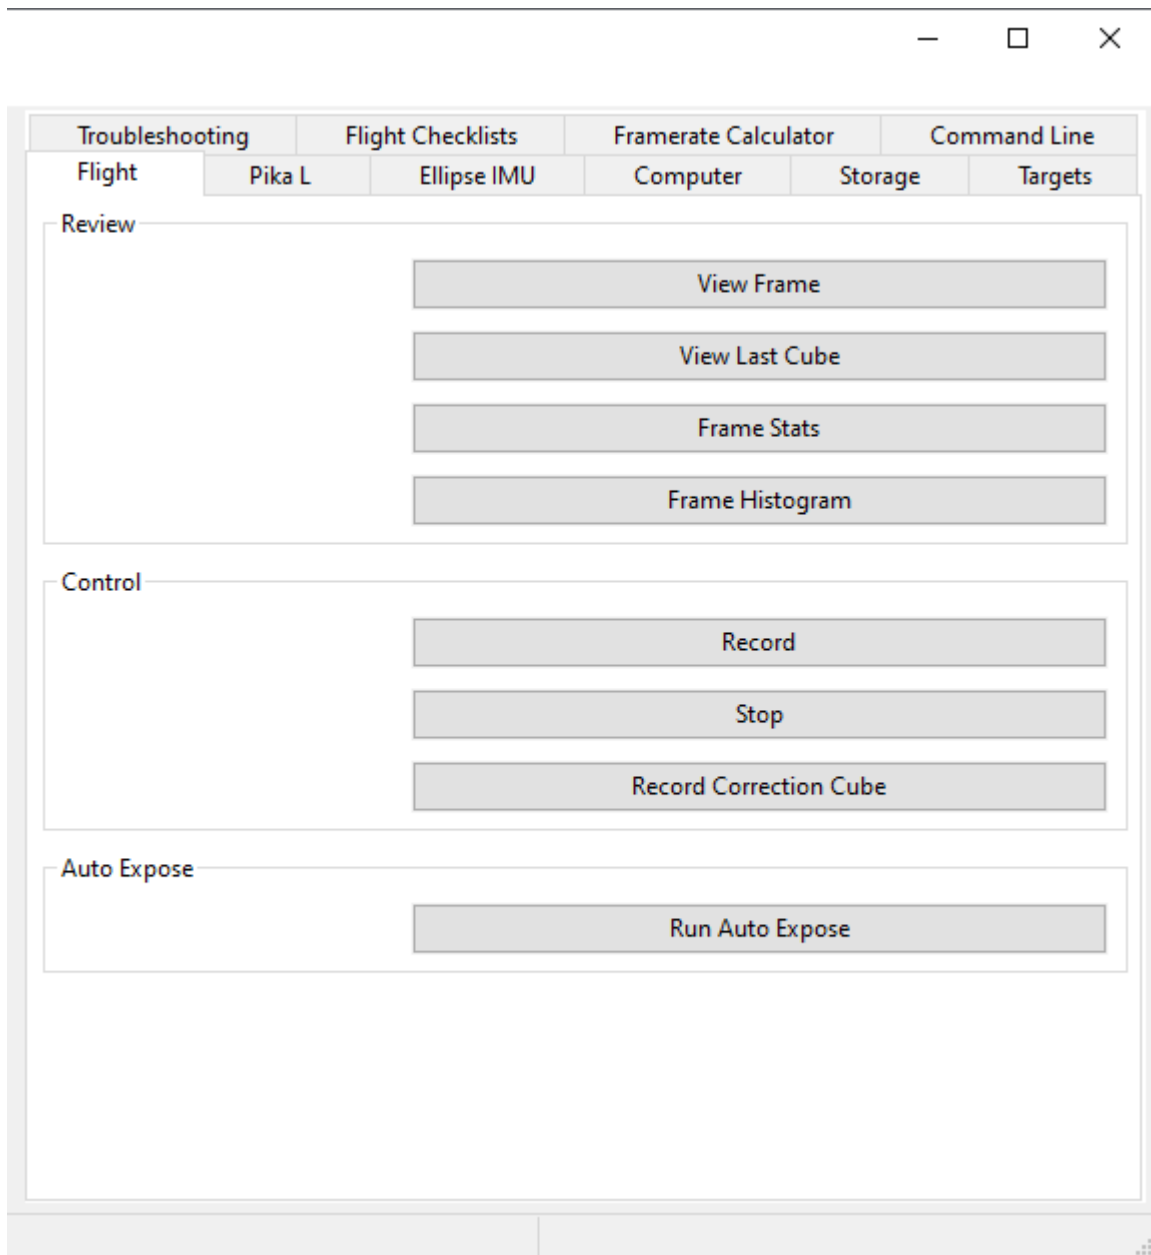

Fig. 3.6: The Flight Tab
The *Flight Tab* (Fig. 3.6) groups functions that may be useful during flight under a single tab.
**Shutter:** Sets and displays the shutter setting of the imager in milliseconds. Autoexpose will adjust the shutter upward in preference to adding gain. If there is not enough light available (as shown by the *Frame Histogram* button Fig. 3.6), you may need to decrease the frame rate to allow longer exposure times.
For custom settings, select the *Custom* item. The *Handle* and *Target* sliders will then become available. The *Handle* parameter determines which percentage brightness image pixel the autoexposure algorithm will try to force to the *Target* percentage value. For instance, a *Handle* setting of 98% and a *Target* setting of 90% will try to force the 98th percentage brightest image pixel to 90% of the maximum brightness value. This would then allow 2 percent of the image pixels to be brighter than 90% of the maximum value and be in risk of saturation, but also allow the majority of the scene to possess good signal to noise ratios. In the case of ocean imaging where a high percentage of glint is probable, a smaller *Handle* setting might be preferred. These settings can be adjusted fine-tuned by utilizing the *Frame Histogram* feature found in the *Flight Tab* (Fig. 3.6).